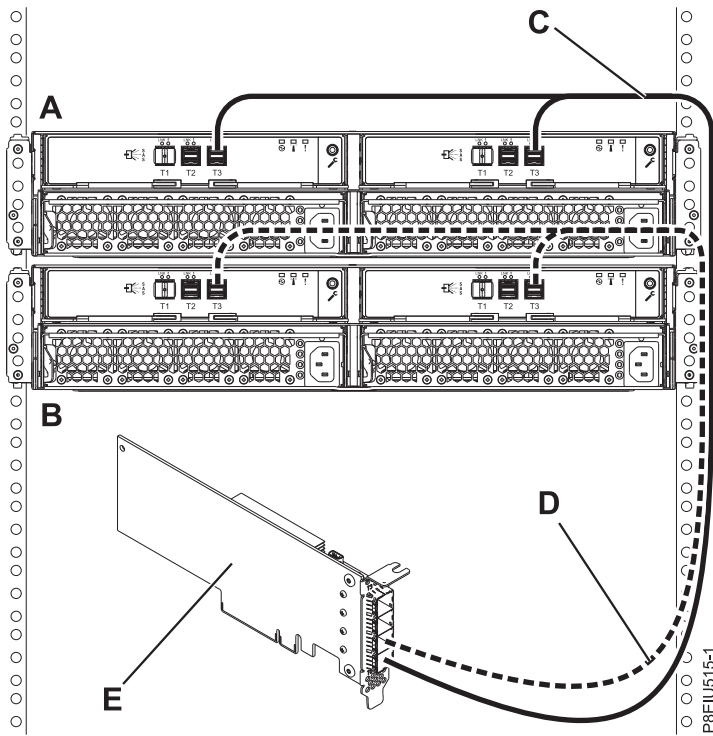

Figure 15. Mode 1 connection of two ESLL and ESLS storage enclosures by using YO12 cables to a single FC EJ0J or FC EJ0M SAS adapter
15. Complete a mode 1 connection of two enclosures (**A and B**) by using YO12 cables (**C and D**) to a single FC EJ0J or FC EJ0M SAS adapter (**E**), as shown in Figure 15 on page 16, and then continue with “Connecting cables, power cords, and installing covers” on page 22.